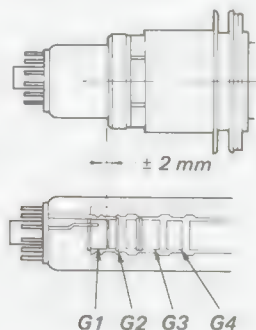

Fig. 5-2.
7. Fix the neck assembly at the position as shown in Fig. 5-2.